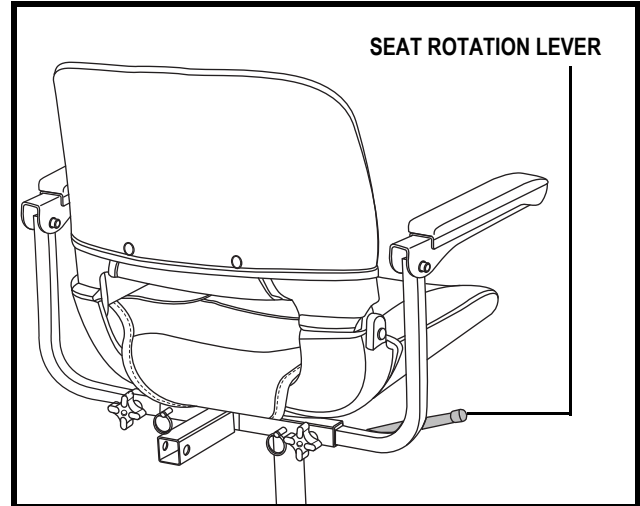

Figure 17. Seat Position Adjustments
1. Pull upward on the seat rotation lever to disengage the seat. **See figure 17.**